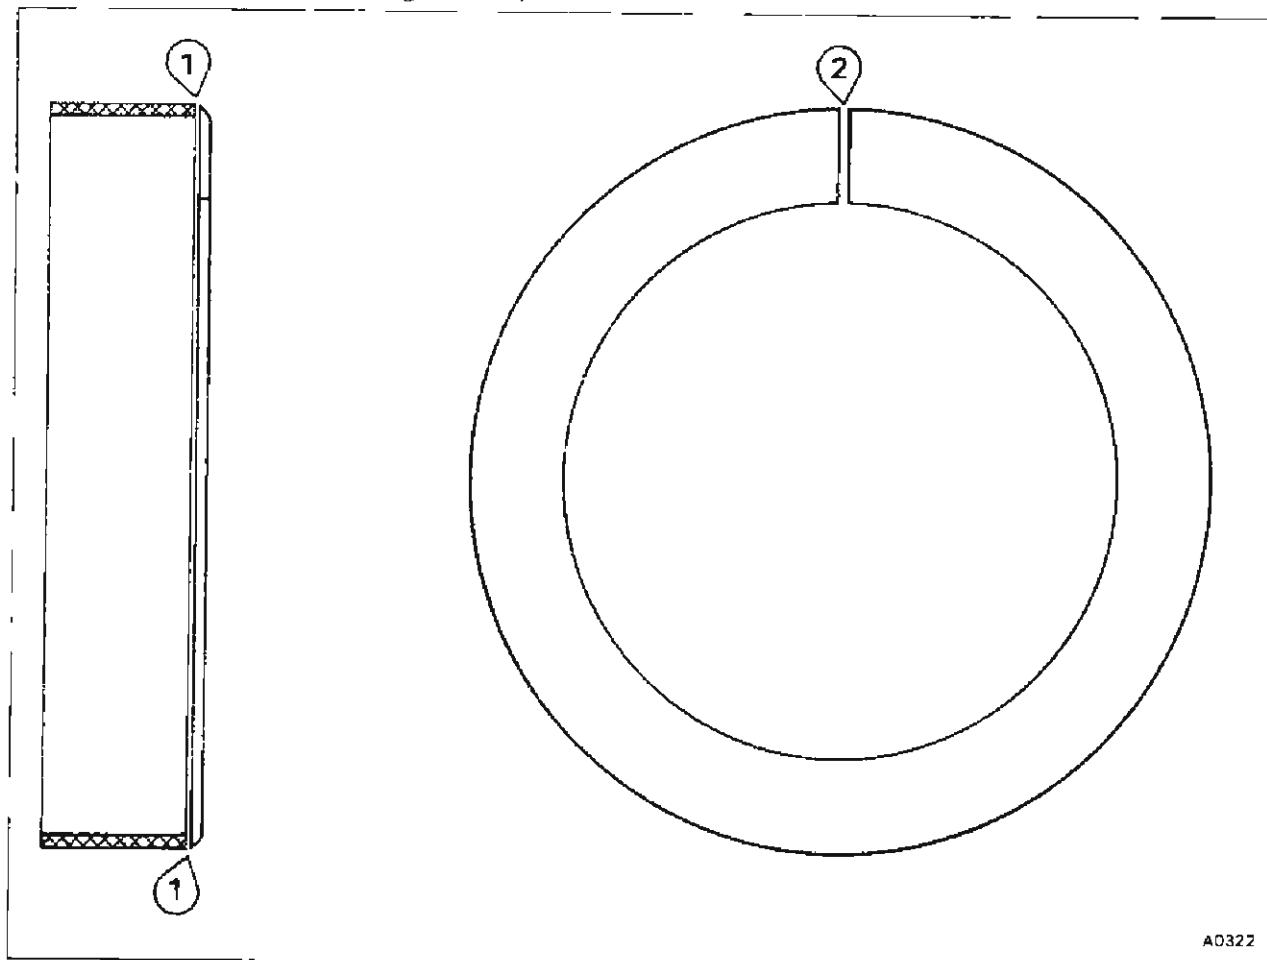

Fig. 1 Flexible spring seat
- 3 Obtain four flexible rear road spring seats (part number UR 20847) remove the rim, then cut the remaining flat circular washer as illustrated in figure 1, items 1 and 2.